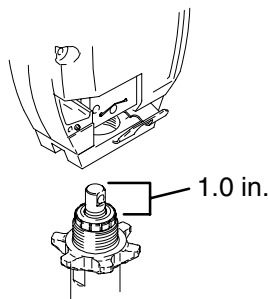

Fig. 19
1. Fig. 19. Pull piston rod out 1.0 in. Screw in pump until holes in housing plates and piston rod align.